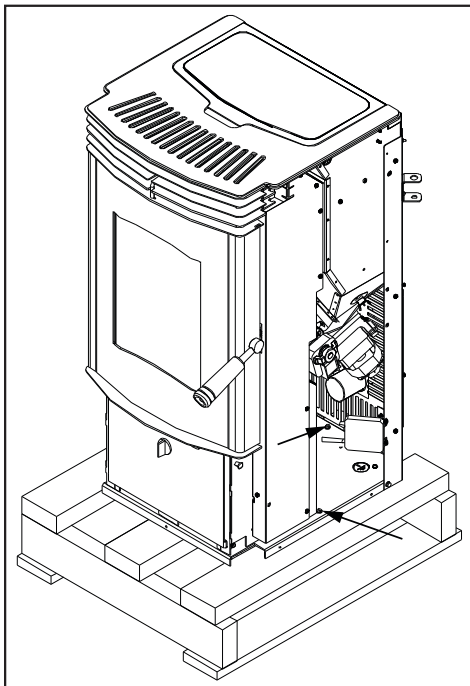

Figure 5: Screws to take out to remove stove from pallet.
4. Using a $\frac{5}{16}$ " socket or flat head screwdriver, remove the three (3) wood screws that are holding the bottom of the stove to the pallet. There is one (1) screw behind each side panel and one (1) at the back behind the back grill (refer to Figure 5).